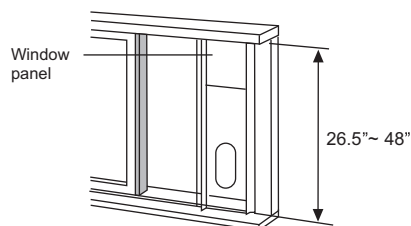

Fig.13
2. Attach the window slider kit to the window stool. Adjust the length of the window slider kit according to the width of window, short the adjustable window kit if the width of window is less than 27 inches. Open the window sash and place the window slider kit on the window stool. See Fig.13.